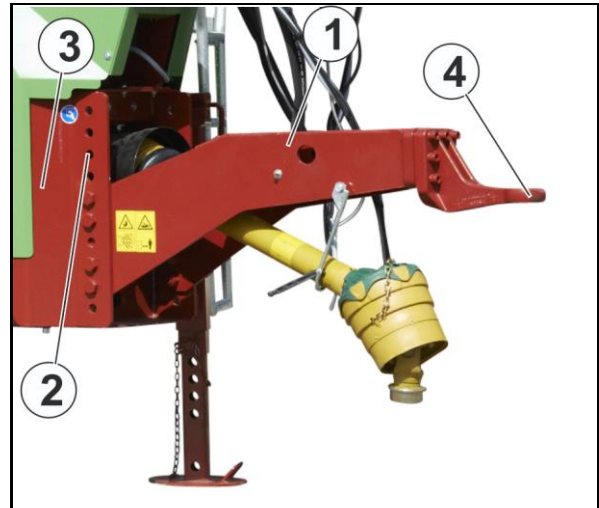

Fig. 12
The drawbar (1) can be screwed on within the adjusting range of the positioning holes (2) at different levels compared to the chassis (3) (Fig. 12).